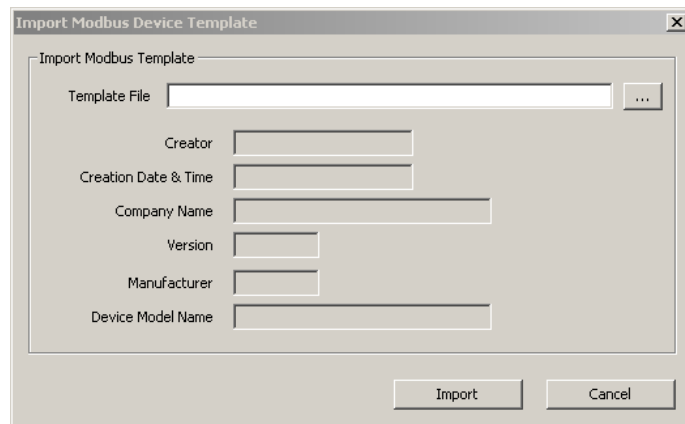

Figure 152 Import Device Template dialog.
2. This opens the **Import Modbus Device Template** dialog shown in Figure 152.